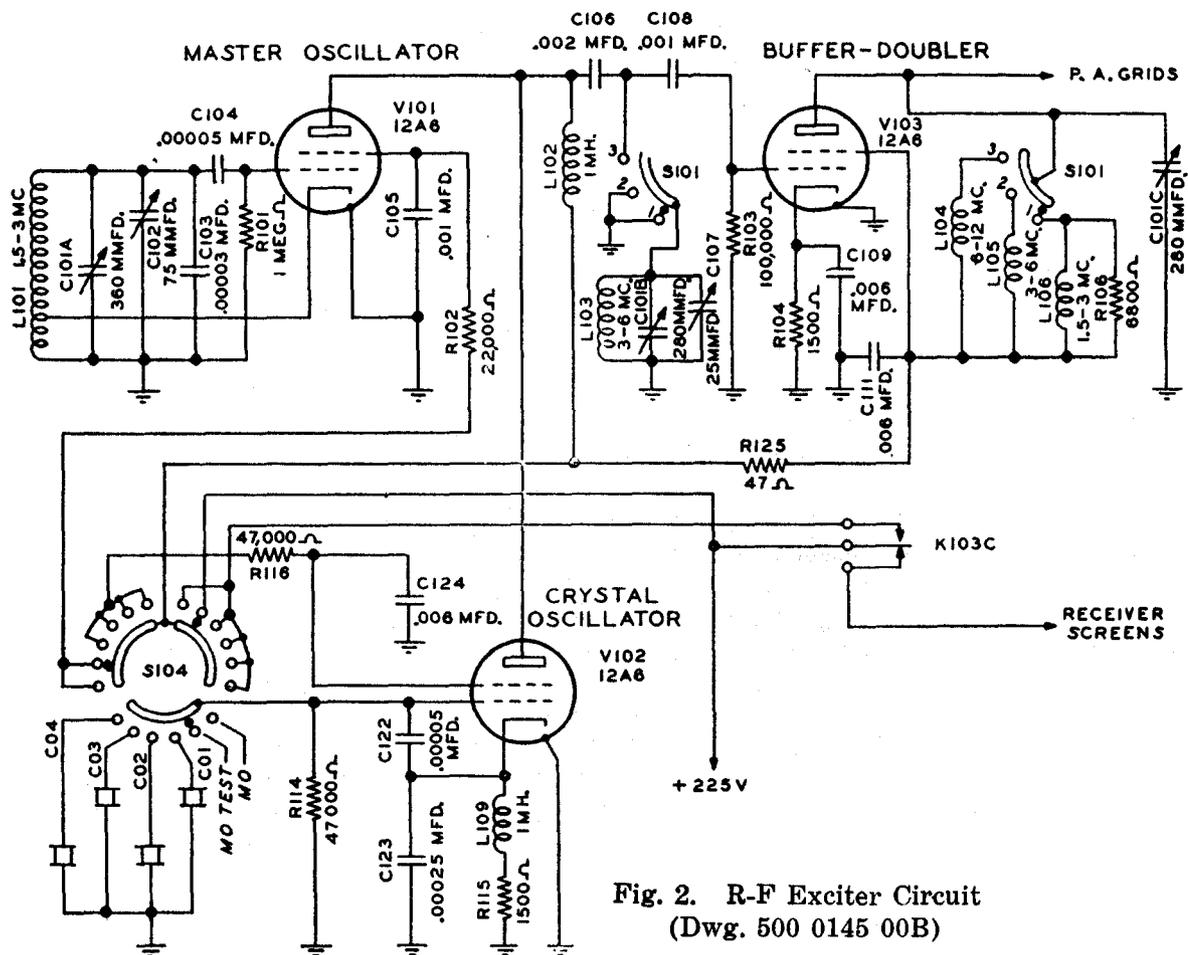

Fig. 2. R-F Exciter Circuit
2.2.4.1. Refer to Figure 2. Either of two oscillator circuits may be used to control the frequency of the transmitter output. Each oscillator circuit employs a Type 12A6 beam pentode amplifier tube. The master oscillator tube, V101, operates in a Hartley circuit and is continuously tunable from 1500 kc to 3000 kc. The grid circuit of V101 is tuned by capacitor section C101A. Variable capacitor C101 is operated by the TUNING control on the transmitter front panel. A tuning slug within grid inductor L101 and trimmer capacitor C102 are used to set the endpoints of the frequency band. When the BAND SWITCH is operated to Positions 1 and 2 the plate circuit of the master oscillator tube is untuned and the output is coupled directly to the grid of the buffer-doubler tube, V103. When the BAND SWITCH is in the above positions the output of the oscillator is within the frequency range 1500 kc to 3000 kc. When the BAND SWITCH is operated to Position 3, a tank circuit consisting of inductor L103 and capacitors C101B and C107, is coupled to the plate of V101 and is tuned to twice the frequency of the grid circuit. A tuning slug within L103 and trimmer capacitor C107 are used to align the tank circuit. Therefore, with the BAND SWITCH in position 3, output from the oscillator is obtained in the frequency range 3000 kc to 6000 kc. The plate tank circuit is tuned by capacitor section C101B, a section of the same variable capacitor that is used to tune the grid circuit. When the OSCILLATOR SELECTOR switch, S104, is operated to the MO TEST position, plate and screen voltages are applied to the master oscillator tube, V101, and the buffer-doubler tube, V103, to permit the measuring of the frequency of the output without applying screen and plate voltages to the power amplifier tubes. When the OSCILLATOR SELECTOR switch, S104, is operated to the MO position it is necessary to close the MICROPHONE or KEY jack circuit and operate relay K103 to apply plate and screen voltages to the master oscillator and buffer-doubler tubes.